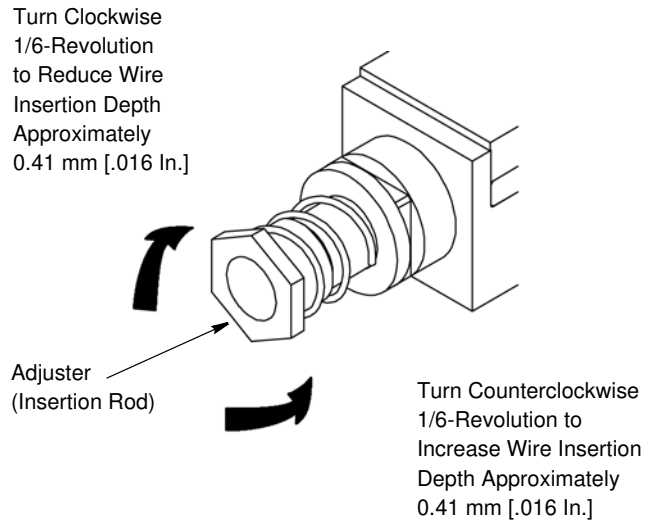

Figure 3
- *If wire is not deep enough in contact slot:* Remove the head and turn the adjuster COUNTER-CLOCKWISE. Refer to Figure 3. A 1/6-revolution adjustment will increase the wire insertion depth by approximately 0.41 mm [.016 in.]. Repeat Steps 2, 3, and 4 of Paragraph 3.1 until the desired insertion depth is attained.
- *If the wire is too deep in the contact slot:* Remove the head and turn the adjuster CLOCKWISE. Refer to Figure 3. A 1/6-revolution adjustment will reduce the wire insertion depth by approximately 0.41 mm [.016 in.]. Repeat steps 2, 3, and 4 of Paragraph 3.1 until the desired insertion depth is attained.